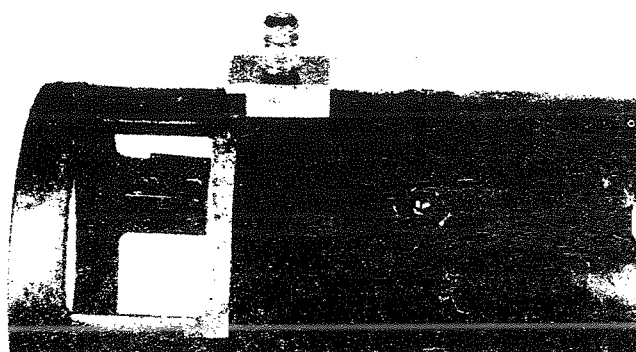

Figure 17
3. Slide square insulator on the filed coil stud so the radius side rests against the field ring. Figure 17.